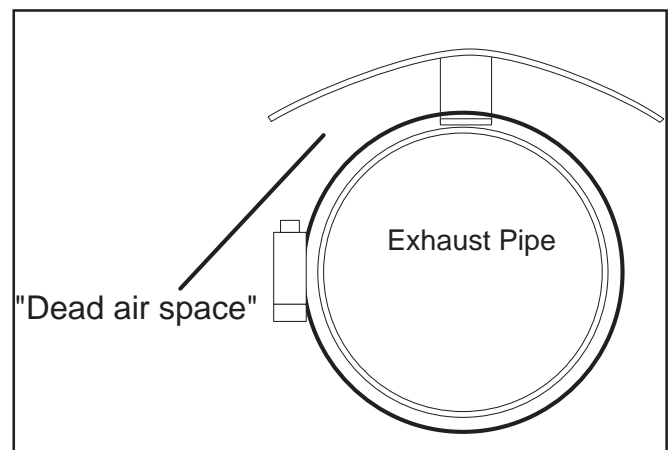

Figure 10
4. Bend the heat shield to form it around the tail pipe. Be sure to maintain a "dead air" space of 1/2" to 1" between the tail pipe and the heat shield (Figure 10).